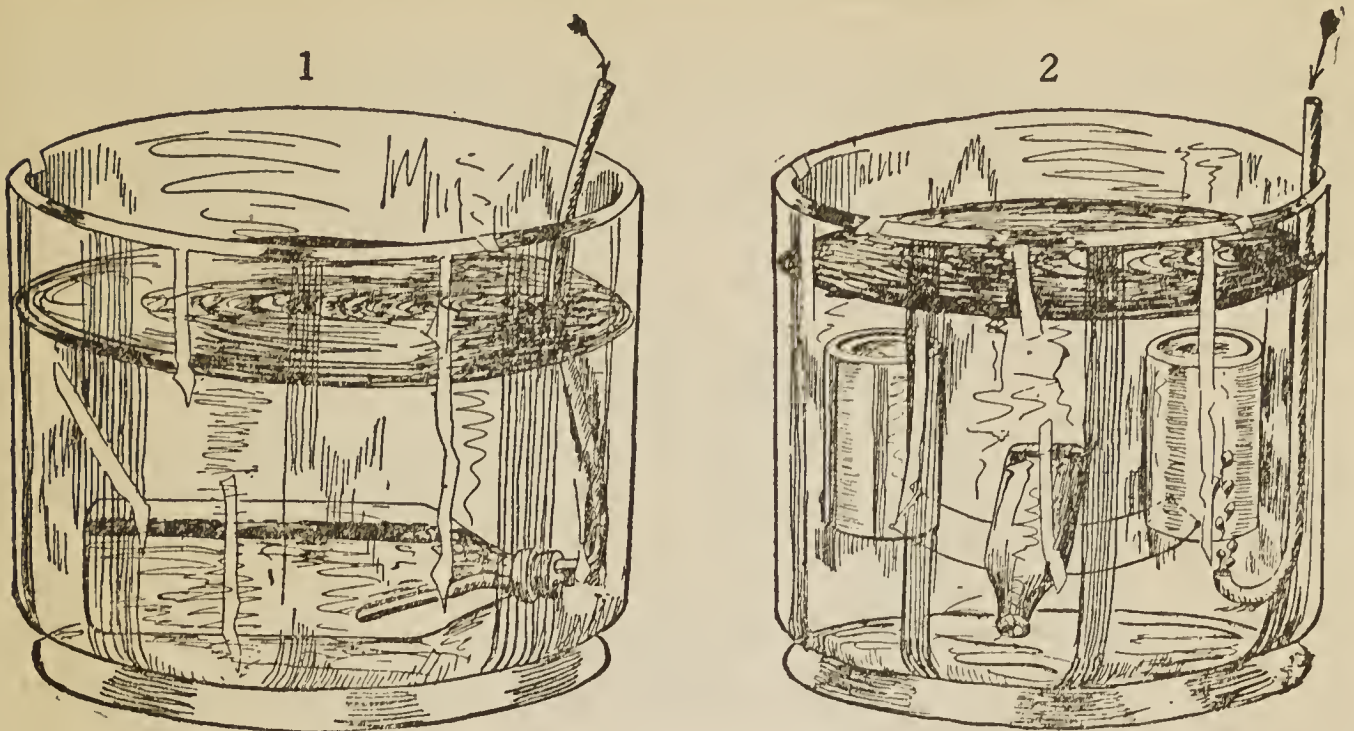

Fig. 107.—Showing How Ships are Raised by Compressed Air.
Illustrate this with the apparatus shown in (1), Fig. 107. Fill the bottle with water to represent the sunken ship, submerge it in a pail of water, and blow air in through the hose. Does the ship float to the surface?
Illustrate this as shown in (2), Fig. 107. Use the bottle as the sunken ship and two empty tin cans of the same size as the pontoons. Punch nail holes in the opposite sides of the top edge of each tin can, connect them as shown, force air into them a little at a time in **equal** amounts. Is the ship raised nearly to the surface?